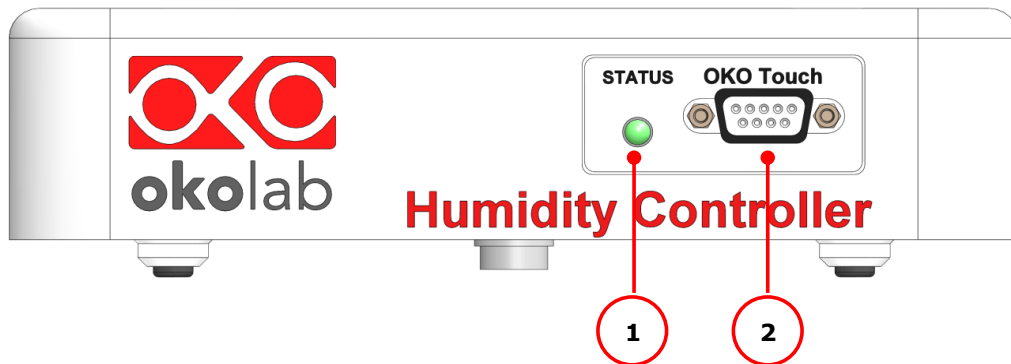

Figure 3. Front Panel Overview.
Figure 3 illustrates HM-ACTIVE-STANDALONE front panel:
10. The Status led (1 in Figure 3) on the front panel of HM-ACTIVE-STANDALONE will start blinking.